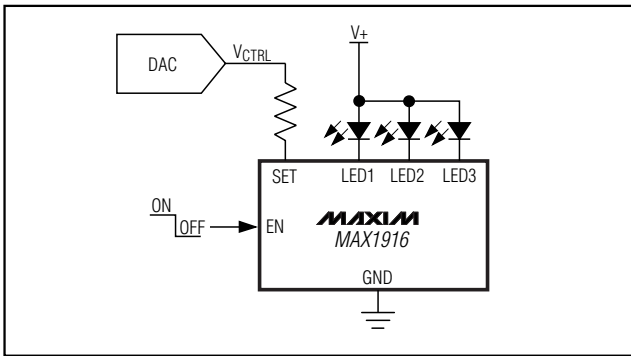

Figure 3. Brightness Adjust Using DAC
- 2) Brightness Adjustment Using a DAC (Figure 3). A DAC is used as  $V_{CTRL}$  such that the LED brightness may be dynamically adjusted to eliminate factory calibration. A battery (single Li+ or three NiMH cells) or a regulated power source drives the LEDs.